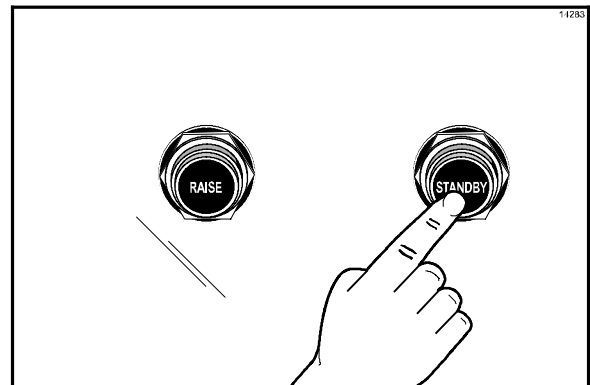

Figure 24
4. Press the Standby button to close the platen. (See Figure 24.)